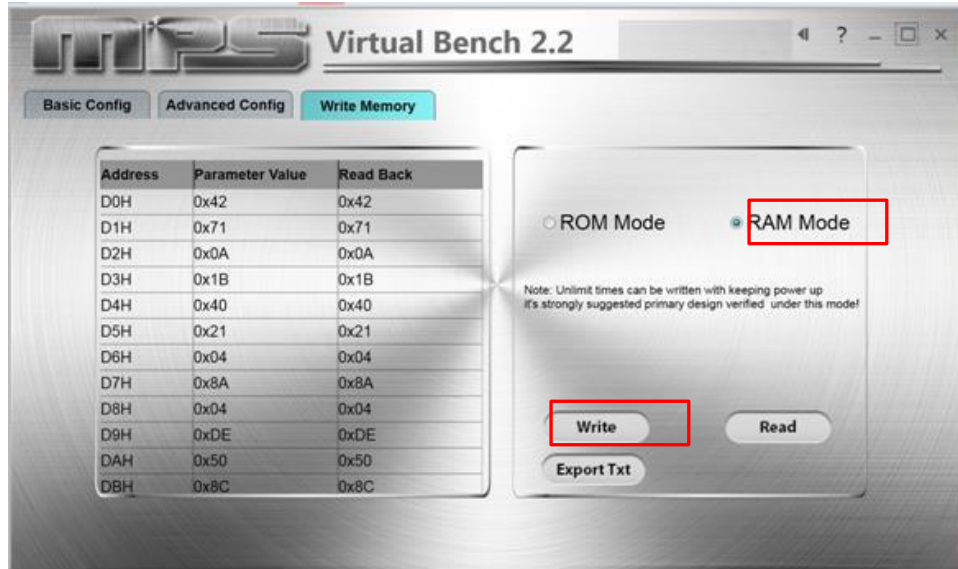
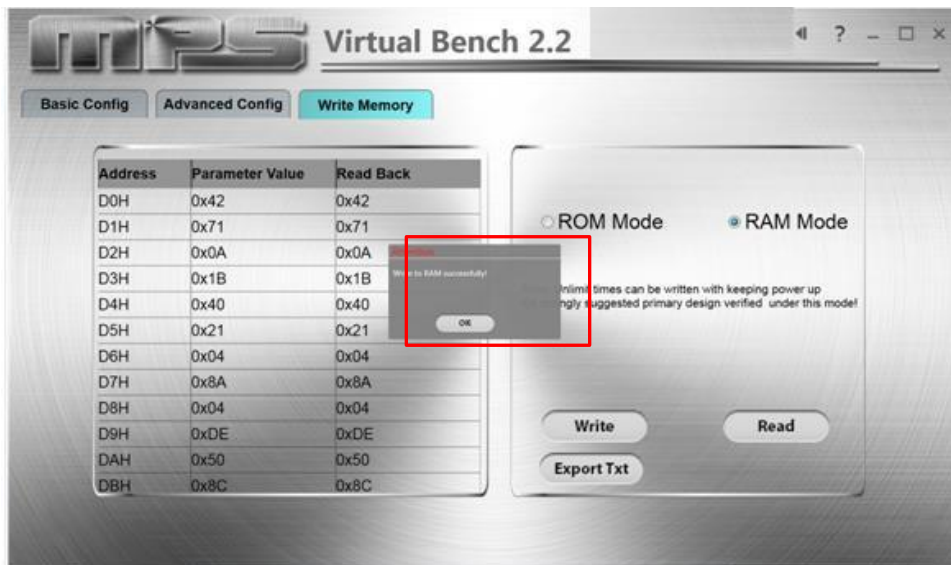

Figure 10: RAM Mode Write Version
Figure 11: RAM Mode Write Successfully
- Click the “RAM Mode” button and then click the "write" button to update values (see Figure 10). A successful writing is shown in Figure 11. If the writing is wrong, check your connection and restart your writing.